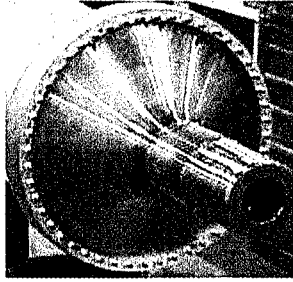

Figure 22 - Assembled Forward End
- g. Start each self-locking nut (Items 10 and 16 – See Table 3) onto each bolt. Using a crisscrossing pattern begin to draw the forward anti-deflector ring (Item 3) onto the forward adapter (Item 1). Note, this will require the force from nearly every nut in order to draw the ring on. Next, using a crisscross method, torque each of the forty-eight nuts to 350-400 in-lbs. (See figure 22)